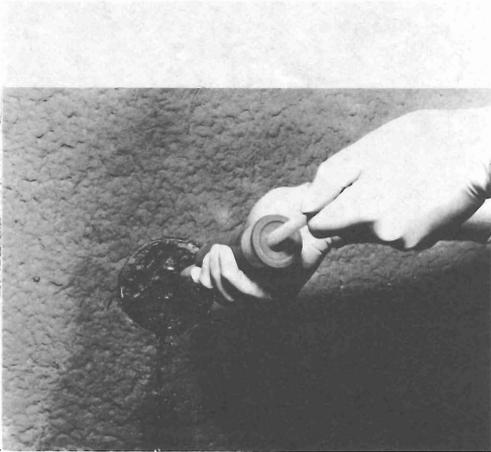

FIGURE 17
- 8.03 Mix a cartridge of compound. Screw the cartridge onto the nozzle and wait until the compound starts to foam, then inject. (see Figure 17)